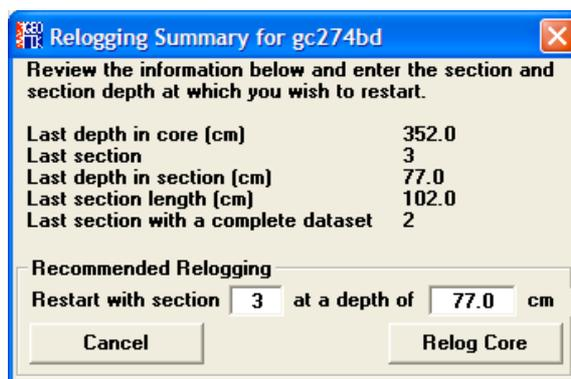

Figure 3-18. Relog core panel.
- III. The user should decide at what point (at the reference position) he/she wishes to relog the core and enter the values in the boxes [**Restart with section**] and [**at a depth of**] and click [**Relog Core**] when ready (see Figure 3-18). All data below this point will be deleted.
- IV. The user will be asked to reset the reference position and zero the vertical (Z) motor if necessary before being asked to place the appropriate core section on the track.